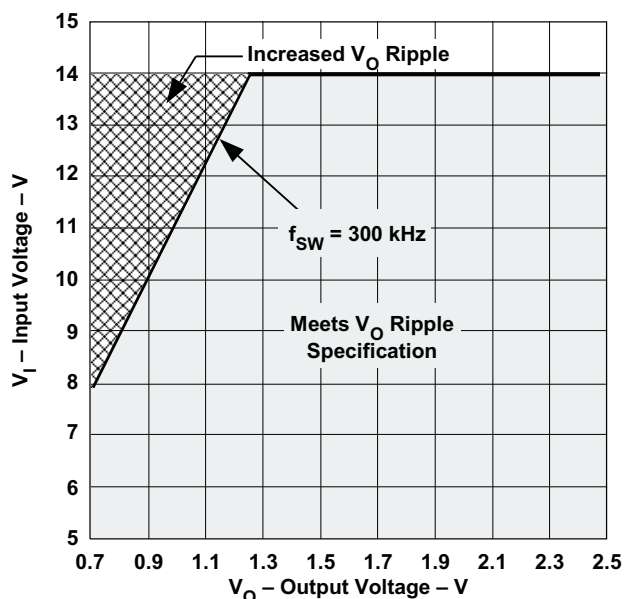
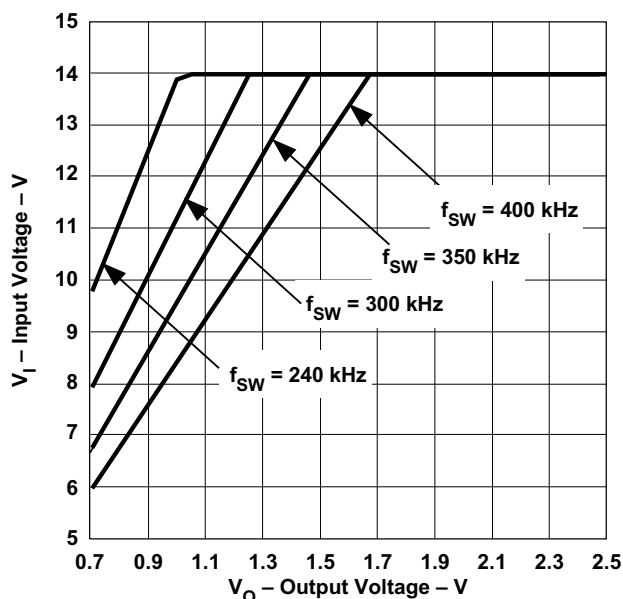

Figure 25. V_O Ripple Regions at 300 kHz
Figure 26. V_O Ripple Regions
Synchronizing to a higher frequency and operating with a low duty cycle may impact output voltage ripple. When operating at 300 kHz, Figure 25 shows the operating region where the output voltage ripple meets the electrical specifications and the operating region where the output voltage ripple may increase. Figure 26 shows the operating regions for several switching frequencies. For example, a module operating at 400 kHz and an output voltage of 1.2 V, the maximum input voltage that meets the output voltage ripple specification is 10 V. Exceeding 10 V may cause an increase in output voltage ripple. As shown in Figure 26, operating below 6 V allows operation down to the minimum output voltage over the entire synchronization frequency range without affecting the output voltage ripple. See the ELECTRICAL CHARACTERISTICS table for the synchronization frequency range limits.
- A. For Figure 25, operation above a given curve may cause the output voltage ripple to increase (typically $2\times$).
- B. For Figure 25, when operating at the nominal switching frequency refer to the 300 kHz plot.
<ul style="list-style-type: none"> Changed made Figure 25 viewable Changed made Figure 26 viewable 	27 27